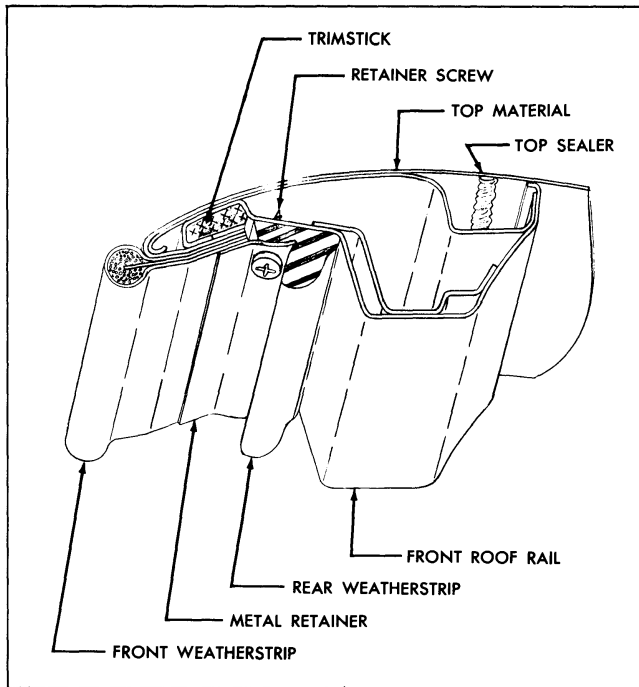

Fig. 22-28 Front Roof Rail
3. At the front of body, raise front roof rail, remove retainers and front weatherstrips, detach top material from front roof rail (Fig. 22-28).